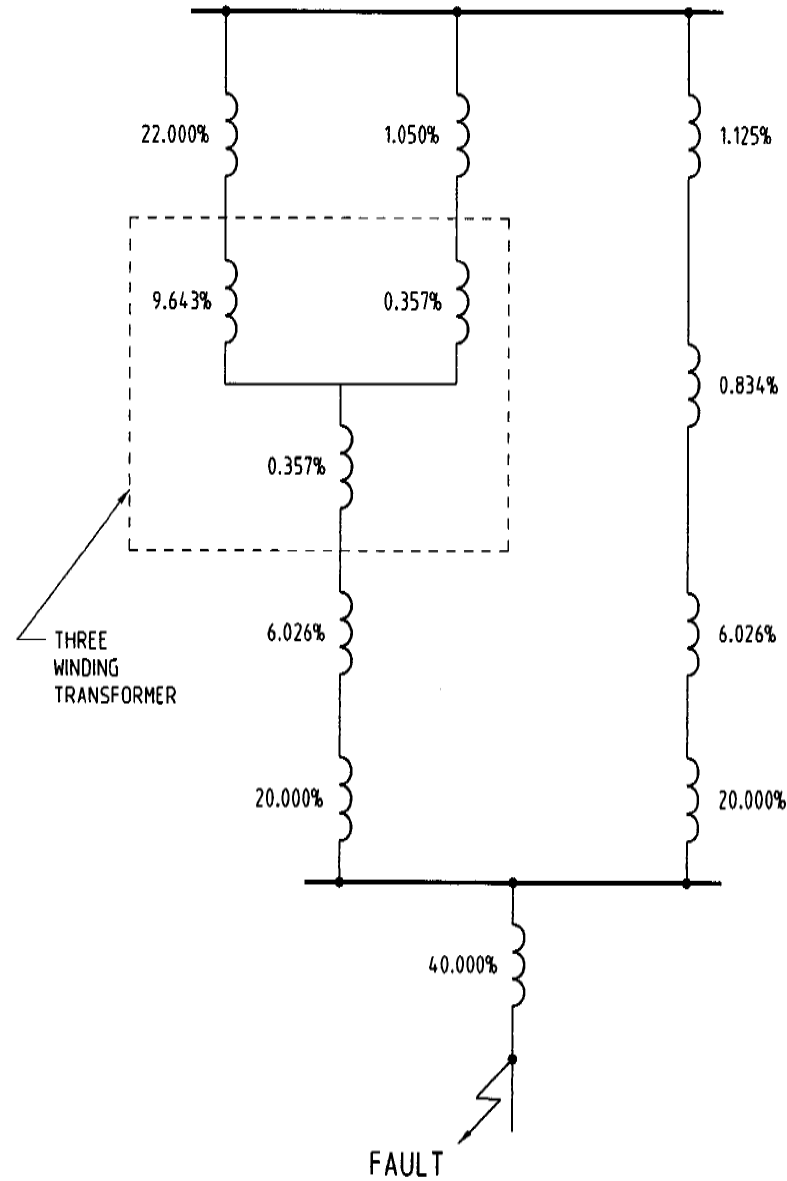

Figure 5
2. Negative Phase Sequence Impedance Network Reduction (Refer Figure 5)